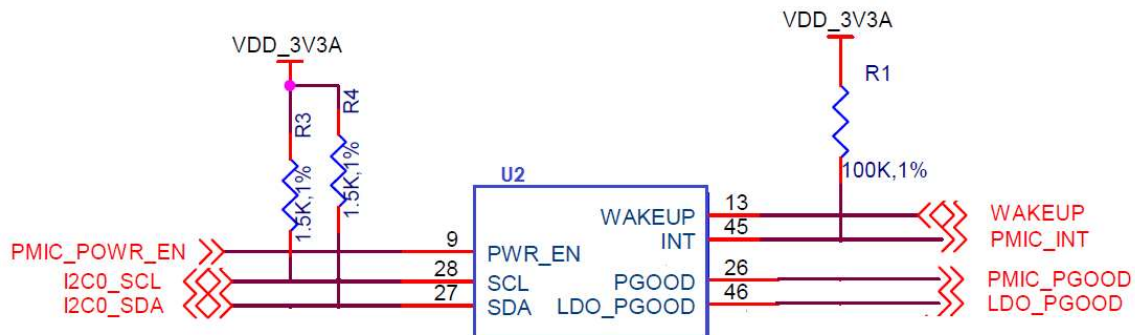

Figure 28. Power Processor Interfaces
**Figure 28** shows the interface between the **TPS65217C** and the processor. It is a cut from the PDF form of the schematic and reflects what is on the schematic.
**Figure 28** above shows two interfaces between the processor and the **TPS65217C** used for control after the power up sequence has completed.